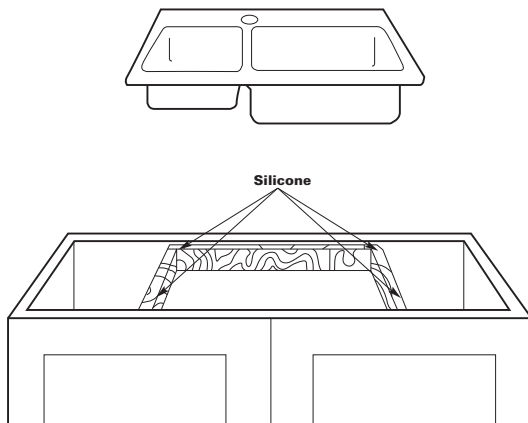

Figure C-2
- Gently position the sink within the frame (Figure C-2).